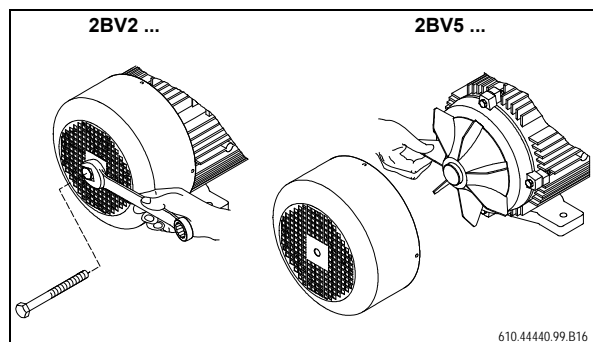

Fig. 15: Turning the shaft
- Open the screwed plugs in all drain tappings (item 4, page 3).
- Whilst doing so turn the shaft in its normal direction from time to time (Fig. 15, page 23).